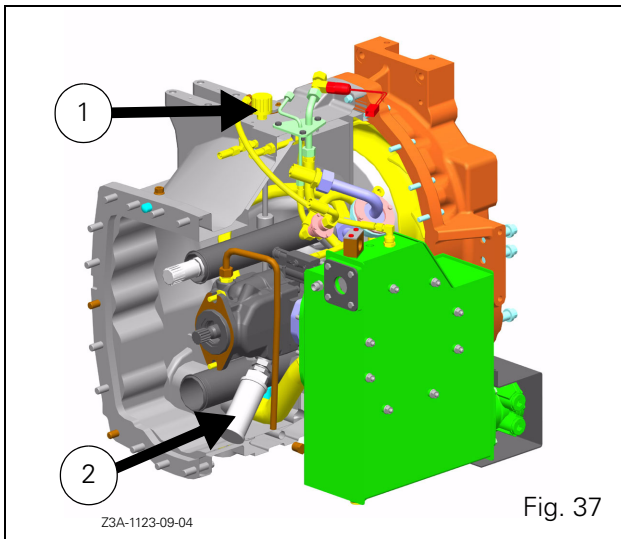
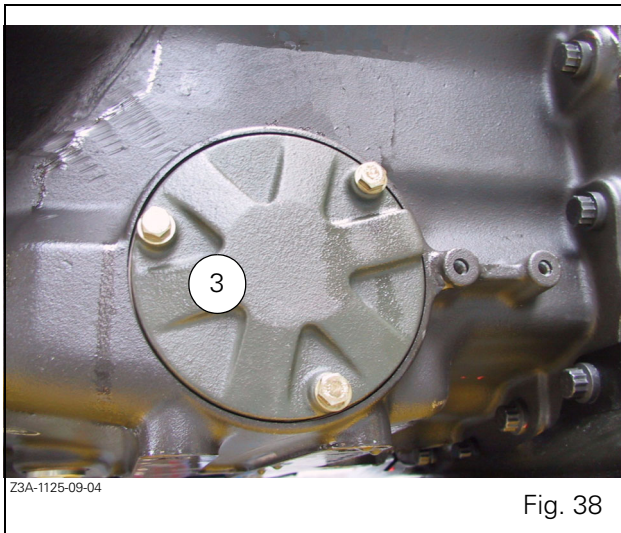

Fig. 37
Fig. 38
- Replace the breather plug every 1200 hours (1. Fig. 37).
- If the hydraulic system is polluted, change the 300 micron steering suction strainer (2. Fig. 37) and the 300 micron LS pump suction strainer (3. Fig. 38).